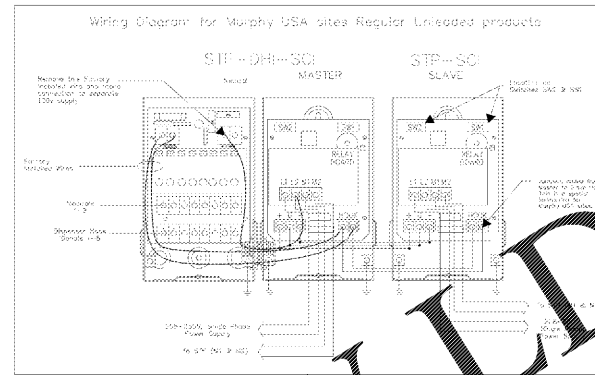

Figure 1 (continued on Page 2)
- Remove factory installed wire from L2 of STP-SCI Master to STP-DHI input power and make connection to separate 120V input power for STP-DHI as noted in Figure 1
- Jumper Hook signals from STP-SCI Master to STP-SCI Slave as shown in Figure 1
NOTE: When wired according to Figure 1, the STP-DHI and one STP-SCI unit will continue to operate even when the other STP-SCI unit is de-energized. When a STP-SCI is de-energized, the Hook signals will remain energized in both STP-SCI units when the STP-DHI is energized and any dispenser signal 1-8 is present.